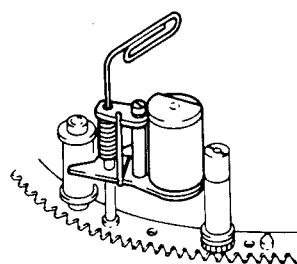

Fig. 5
- (7) Remove the spring. (fig. 5)